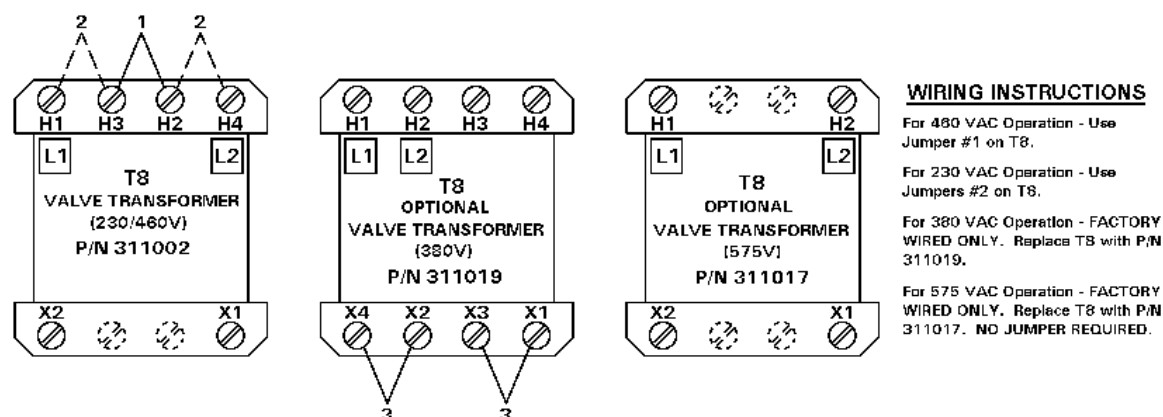

Figure 4.1.3 Valve Transformer jumper settings
3. **Valve Transformer:** Jumpers on the valve transformer H1, H3, H2, and H4 must be configured to match the line voltage, Figure 4.1.3. The standard valve transformer included with the EN1000/EN1001 (either 50 VA or 150 VA) is configured for 240VAC or 480VAC input, for 380 or 575 VAC operation, consult the factory.